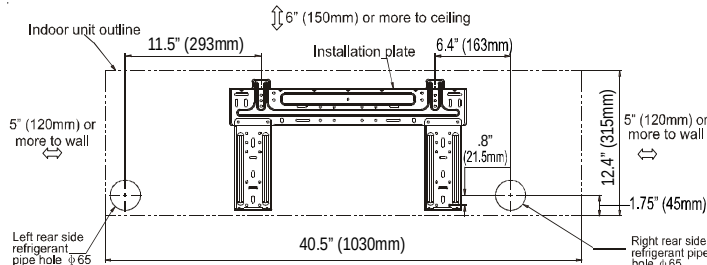

Figure 5A
- Determine the hole positions according to the diagram detailed in Figures 5A, 5B and 5C. Drill one (1) hole 3 & 3/4" (φ 95mm), slanting slightly to the outside.